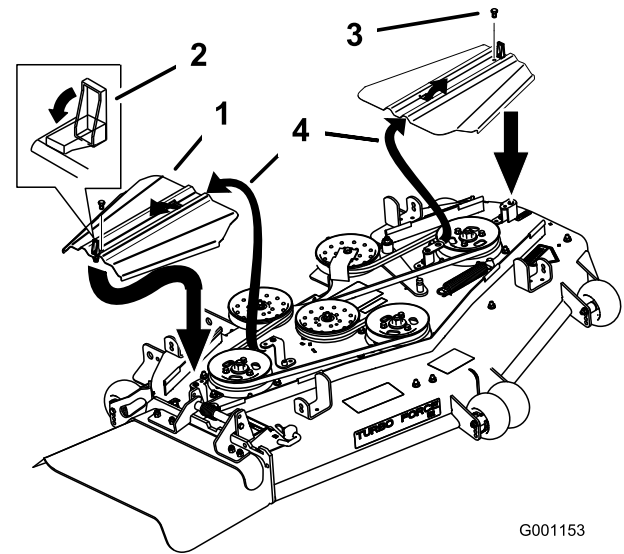

Figure 55
3. Remove the bolts holding the belt covers and remove the belt covers (Figure 55).
9. Install the belt covers by sliding the cover into the tab, install the bolts, and close the latches (Figure 55).